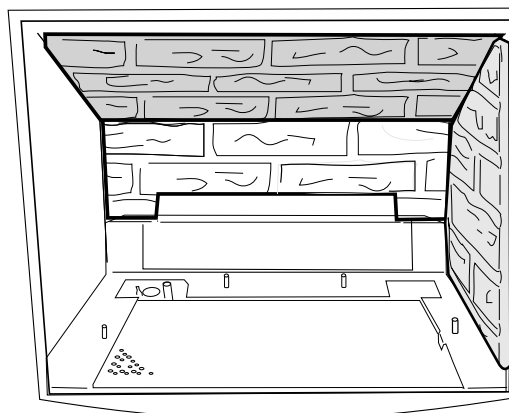

Figure 44. Install the Upper and Side Panels.
5. Install one of the Side Panels, pushing it up against the firebox wall. Fig. 44
6. Position the Upper Panel. You should seat the Upper Panel down and forward so that no gaps are evident at the panel joints, as in Fig. 44.